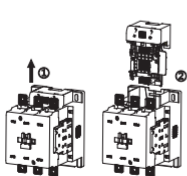
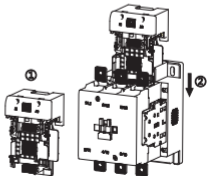

Figure 11 The removal method of the coil
Figure 12 The installation method of the coil
(5) The installation and removal methods of the coil are shown in Figure 11 and Figure 12.